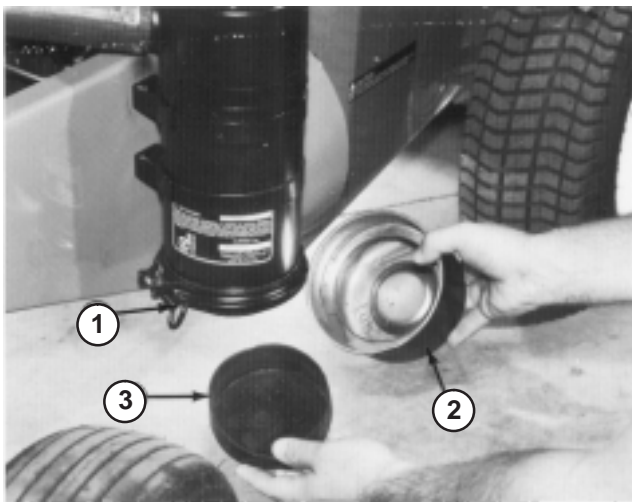

Figure 31
1. Loosen thumb screw until dust cup and baffle can be removed (Fig. 31). Separate dust cup and baffle (Fig. 31).